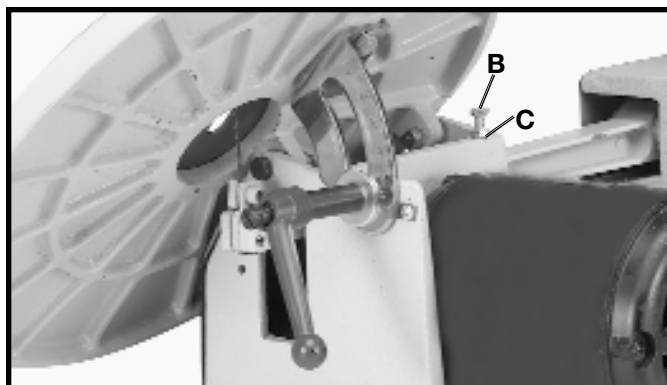

Fig. 33
3. If the table is not at 90 degrees to the blade, adjust the table accordingly making certain screw (B) Fig. 33, contacts bottom of table surface when table is 90 degrees to the blade. Screw (B) can be adjusted by loosening nut (C), thread screw (B) in or out the desired distance and tighten nut (C).